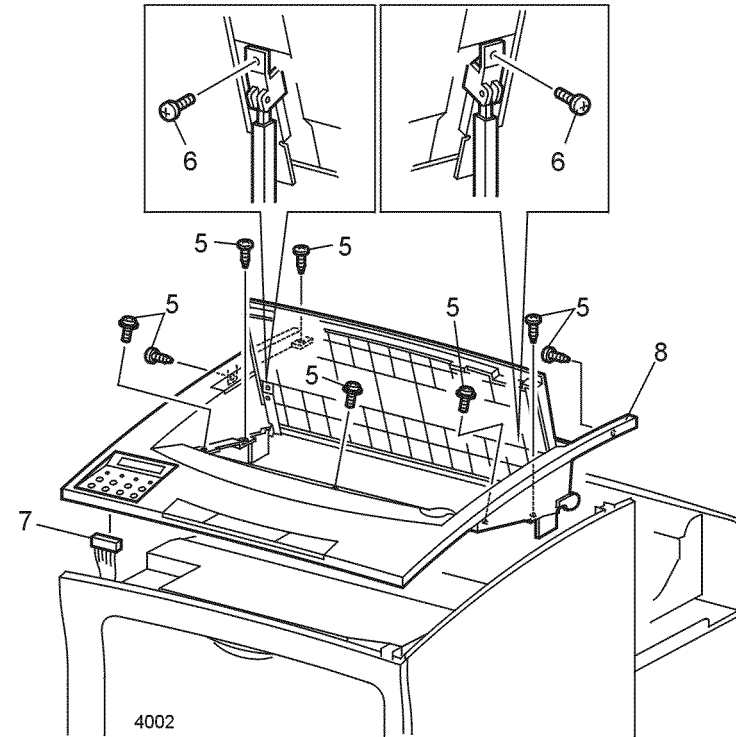

Figure 1 Top Cover Assembly
6. Remove the two screws that secure the Right and Left Print Cartridge Latches to the Top Cover (Figure 1).
7. Disconnect P/J421 from the rear of the Control Panel (Figure 1).
8. Remove the Top Cover Assembly (Figure 1).